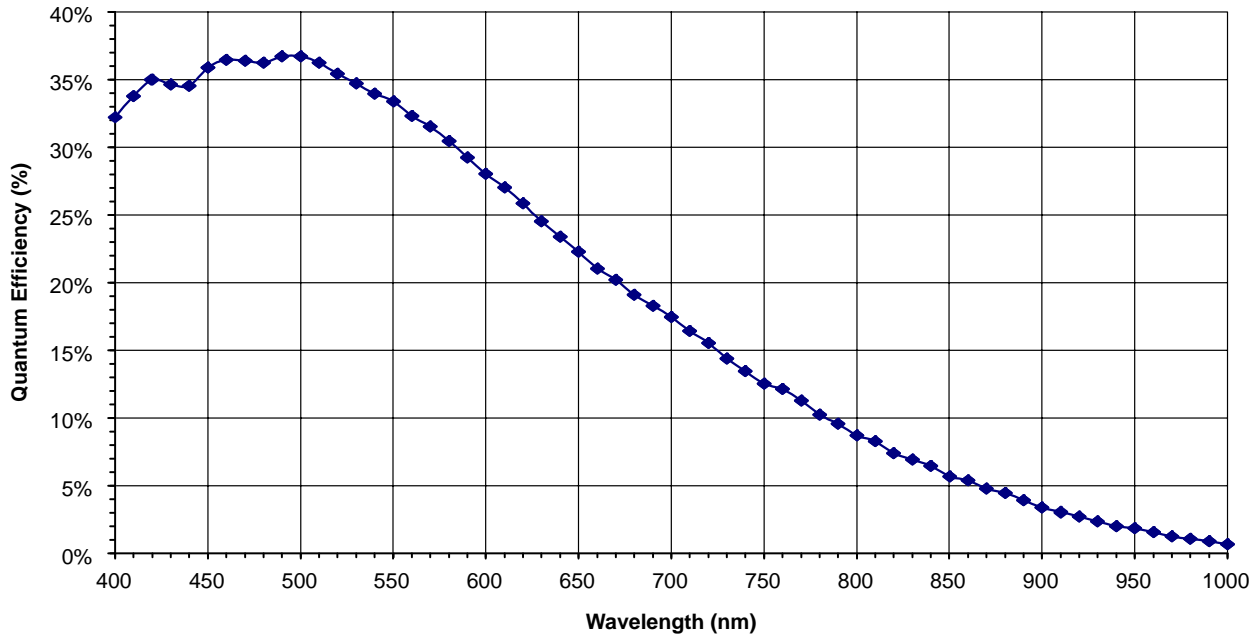

Figure 8. Monochrome with Microlens Quantum Efficiency
2. Refer to typical values from Figure 8.